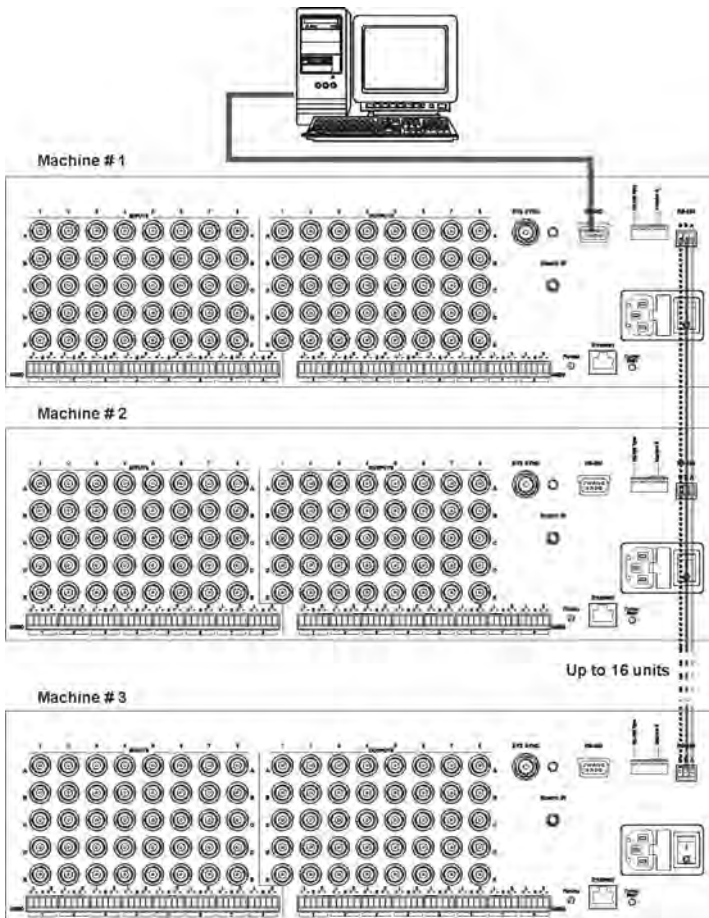

Figure 21: Control Configuration via RS-232
**To control up to sixteen VP-885 units from a PC or serial controller via RS-232, as illustrated in Figure 21:**